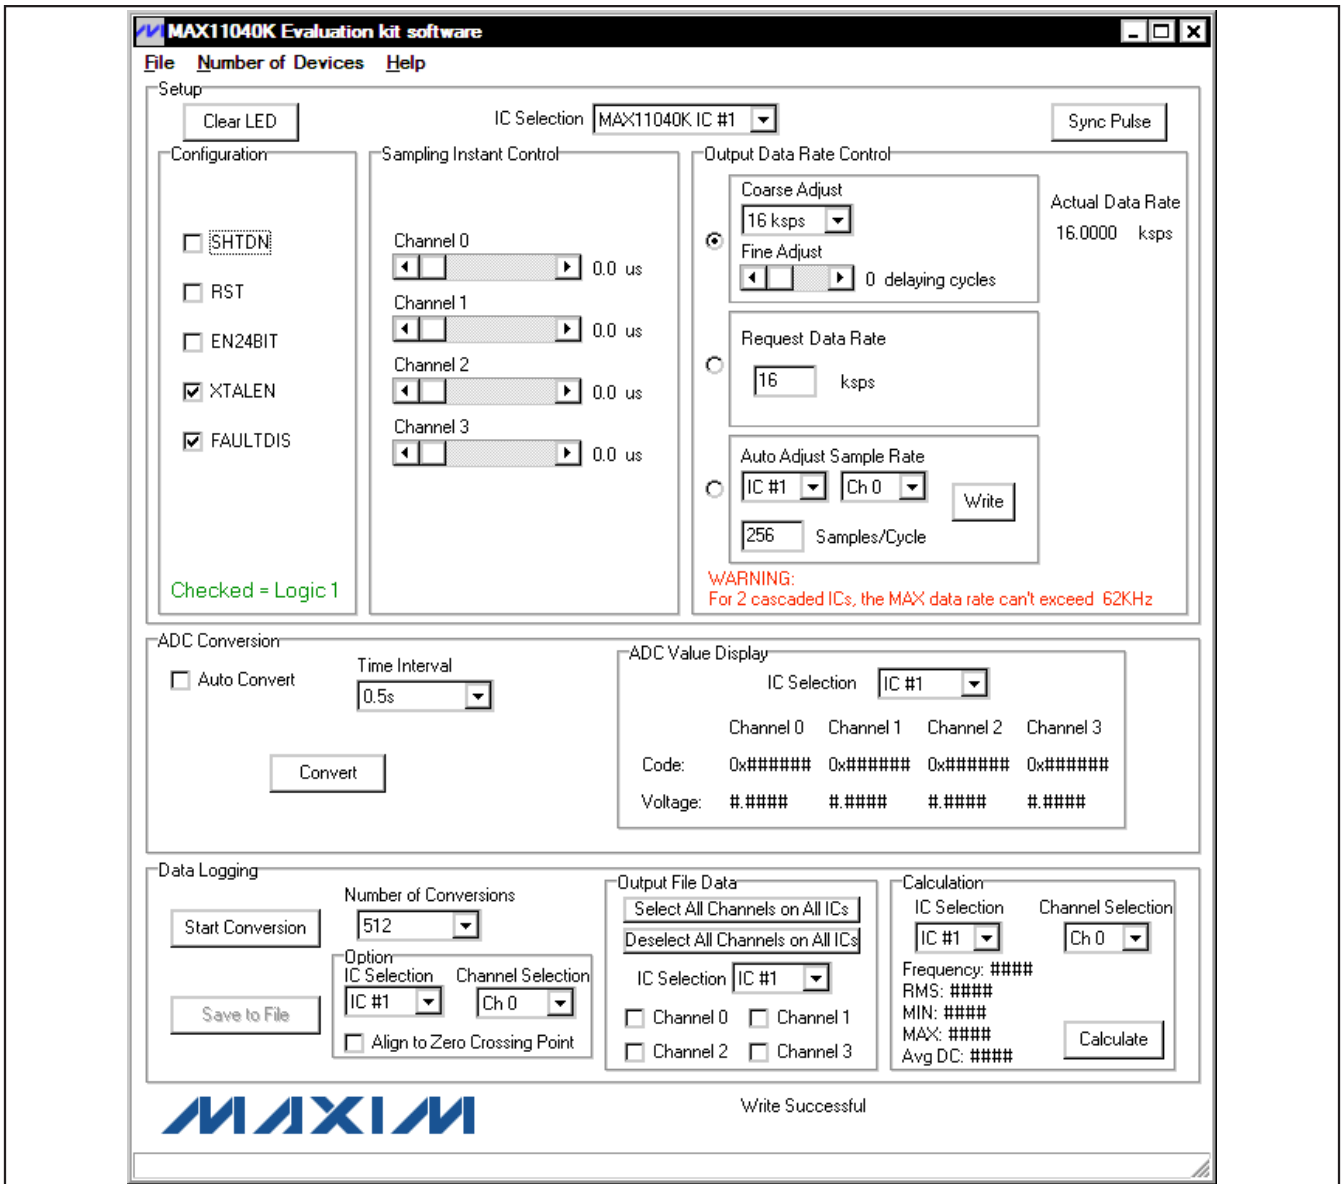

Figure 1. MAX11040K EV Kit Main Window
- 12) Wait until the program automatically detects the MAX11040K hardware and displays the user-interface panel (Figure 1).
The MAX11040K EV kit's main window is shown in Figure 1. The **Setup** group box, located at the top of the window, contains **Configuration**, **Sampling Instant Control**, and **Output Data Rate Control** group boxes. Functions related to reading single-sample ADC values in the **ADC Conversion** group box are located in the middle section. Data-logging functions and data calculation are in the **Data Logging** group box, located at the bottom of the main window.
There are four LED indicators (D1–D4) on the daughterboard. D1 and D2 LEDs reflect the real-time logic levels on the  $\overline{\text{FAULT}}$  and the  $\overline{\text{OVRFLW}}$  pins, respectively. D3 and D4 LEDs latch on the fault conditions on the  $\overline{\text{FAULT}}$  and the  $\overline{\text{OVRFLW}}$  pins, respectively. When D3 or D4 is turned on, press the **Clear LED** button in the EV kit software (Figure 1) or press the on-board pushbutton (S2) to turn off the LEDs after the faults are cleared. All IC  $\overline{\text{FAULT}}$  and  $\overline{\text{OVRFLW}}$  pins are open drain and respectively connected in a wired-ORed configuration.